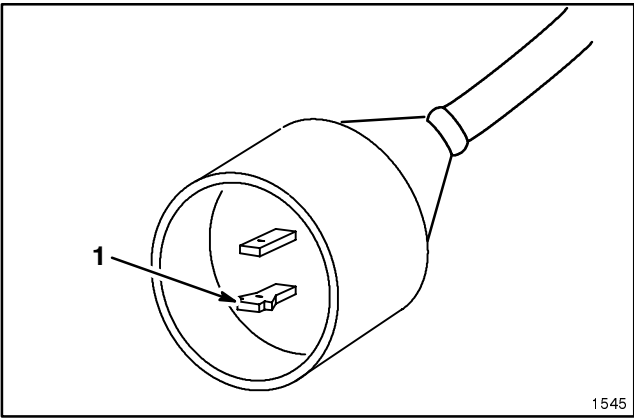

Figure 6
11. Properly connect extension cord to power supply cord to prevent disconnection of the cords (Fig. 6).
To reduce the risk of electric shock, this appliance has a polarized plug (one blade is wider than the other) (Fig. 6). This plug will fit in a polarized outlet only one way. If the plug does not fit fully in the outlet, reverse the plug. If it still does not fit, consult a qualified electrician to install the proper outlet. Do not change the plug in any way.